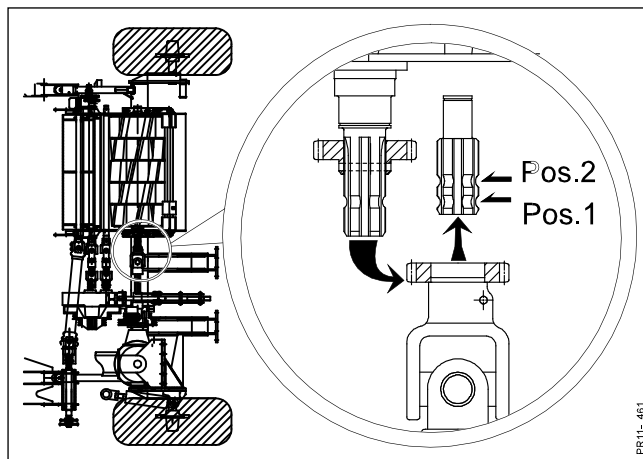

Fig. 4-28
- Fig. 4-28** The PTO drive shaft must be fixed at pos. 2 whereby the gear wheels are engaged and the rotor will rotate in the opposite direction.